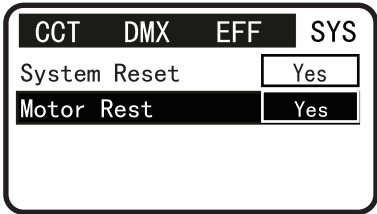
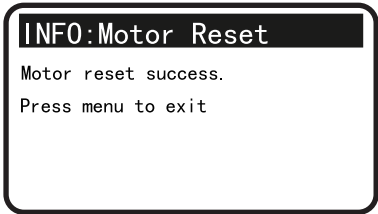

Fig. 11 Motor reset option
Fig. 13 End of motor reset
- › The motor is reset by turning and pressing the "MENU/ENTER" knob and pressing the "SYS" → "Motor Reset" path, the motor reset process is shown in Figure 11 to Figure 13